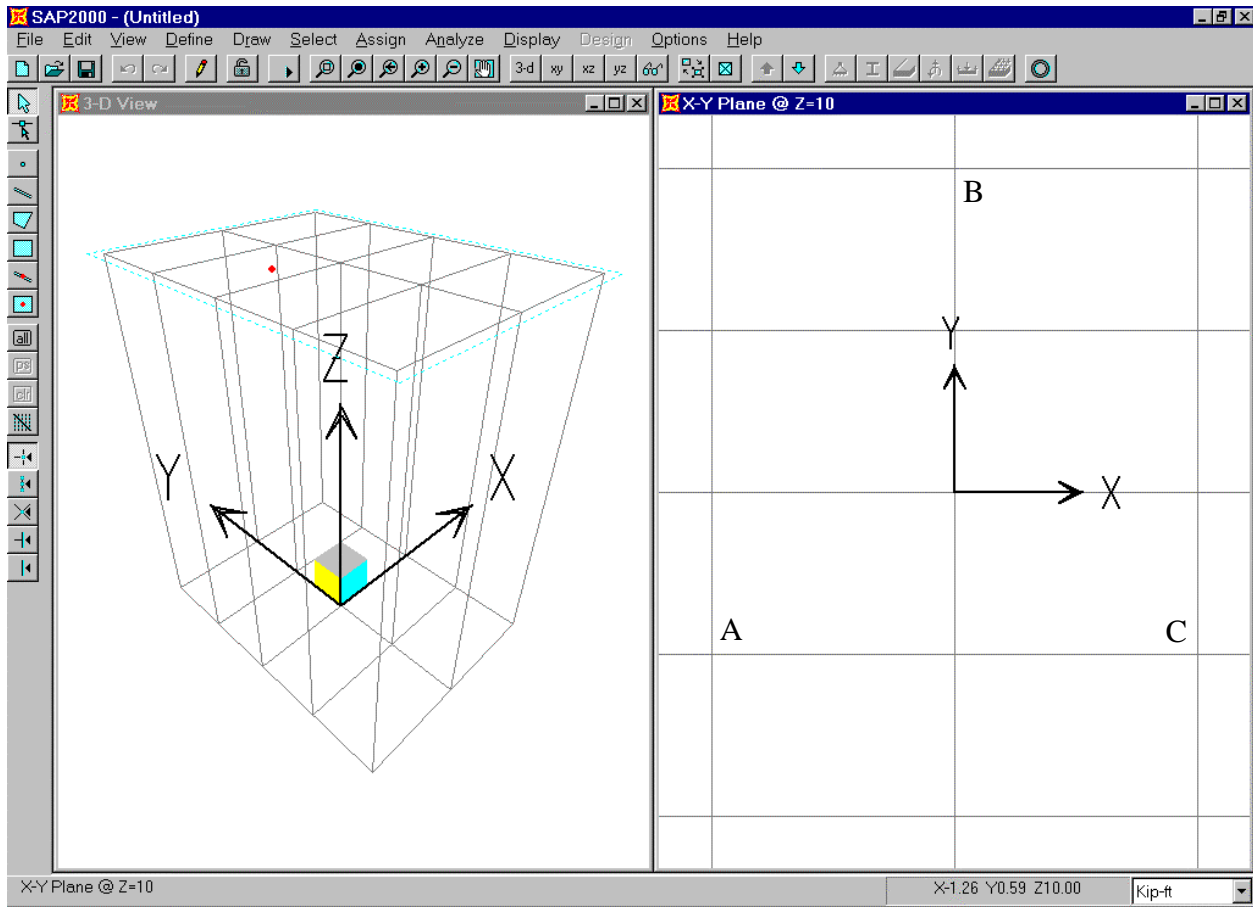

Figure E-1: Screen View Just Before Entering Joints At Elevation Z=10
4. Click in the window titled X-Y Plane @ Z=10 to make sure it is active. The window is highlighted when it is active. The screen appears as shown in Figure E-1.
6. Click on the grid intersection labeled “A” in Figure E-1 to enter a joint at (-3, -2, 10).
7. Click on the grid intersection labeled “B” in Figure E-1 to enter a joint at (0, 4, 10).
8. Click on the grid intersection labeled “C” in Figure E-1 to enter a joint at (3, -2, 10).